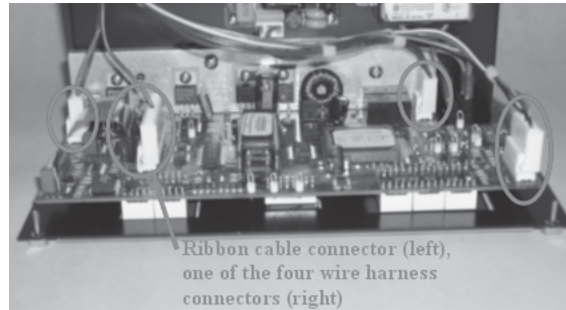

Figure 4: PC Board Noting Location of the Four (4) Wire Harness Connectors, and the One (1) Ribbon Cable Connector
15. Use a flathead screwdriver to re-install the three (3) screws and washers into the aluminum plate at the base of the new PC board.
- a. The location of the connector on the new PC board is in the same place as the location of the connector on the old PC board (see Figure 4).
- b. The connector is a thin black piece of plastic with eight (8) gold metal prongs sticking up from it.
- a. The locations of each connector for each of the cable harnesses on the new PC board are in the same place as the location of the connectors on the old PC board (see Figure 4).
- b. The connectors are thin white plastic pieces with three (3) or more silver metal prongs sticking up from them.